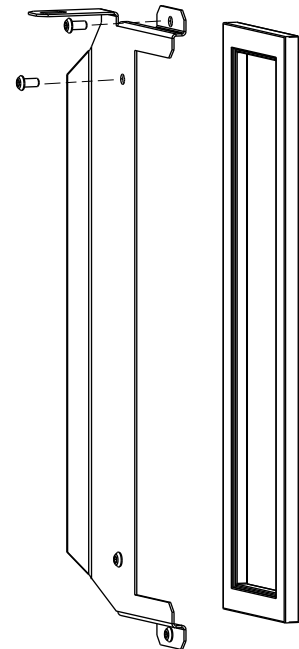

Figure 16.5.
The side screens are secured to the side plates by a steel bracket, #5, fig. 16.5, which must first be loosened to remove the screen frame.
3. Tilt the Side Plate away from the firebox enough to remove only the two **upper** button head screws, #6, from the Screen Bracket, fig. 16.5. There is no need to remove the lower screws.